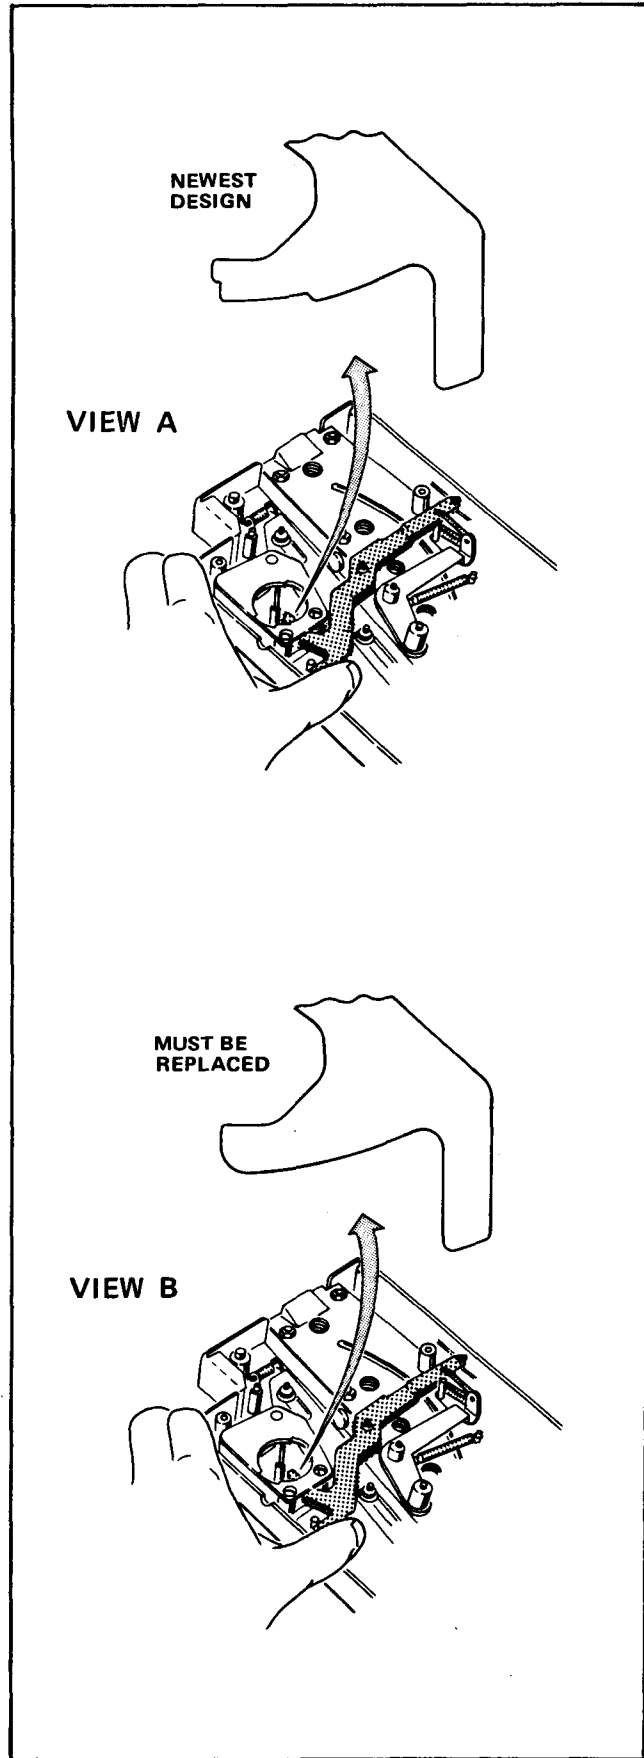

FIGURE 3
1. If the end of the Latch Release Assemblies in the Coin Mechanism match the ends of the Latches shown in View "B" of Figure 3 and after the required parts are received, follow steps 11 through 14, skip steps 15 through 19, follow steps 20 through 41, skip steps 42 through 45, and follow steps 46 through 76.
2. If the ends of the Latch Release Assemblies match the Latches in View "A" of Figure 3, skip steps 11 through 14 and follow steps 15 through 30, skip steps 31 through 41 and follow steps 42 through 76. Heed the Note given prior to step 46.